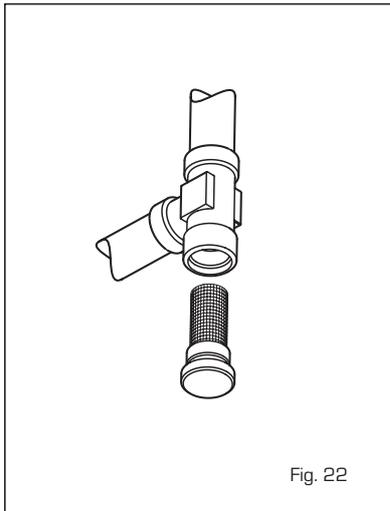

Fig. 22
4.5.2 Cleaning the filter "Aqua Guard Filter System" (fig. 22)
4.5.3 Operation floor drying (fig. 22/a)